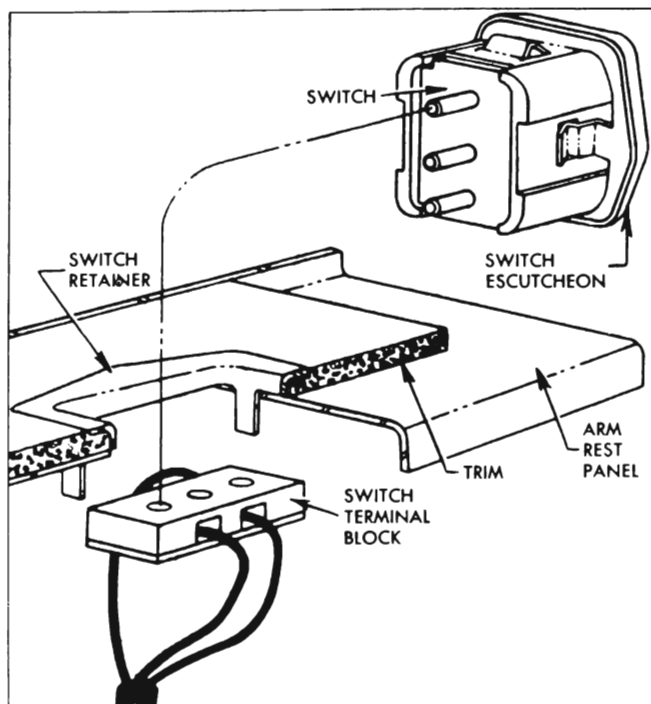

Figure 13-69—Rear Quarter Window Switch Attachment
5. To install, reverse removal procedure. See Figure 13-69.